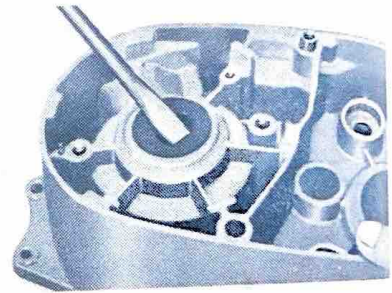

Fig. 3-18-2
- 1) Pry the oil seals out of place with a slot head screw driver. (Fig. 3-18-2)